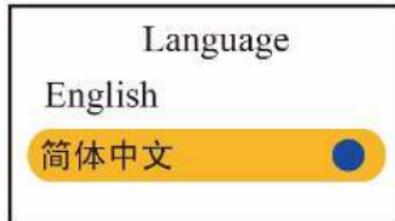

Figure 4.10D Language setup
- **Language:** This oximeter provides the display with two languages: English and Simplified Chinese, the factory default is “English”, as shown in figure 4.10D.